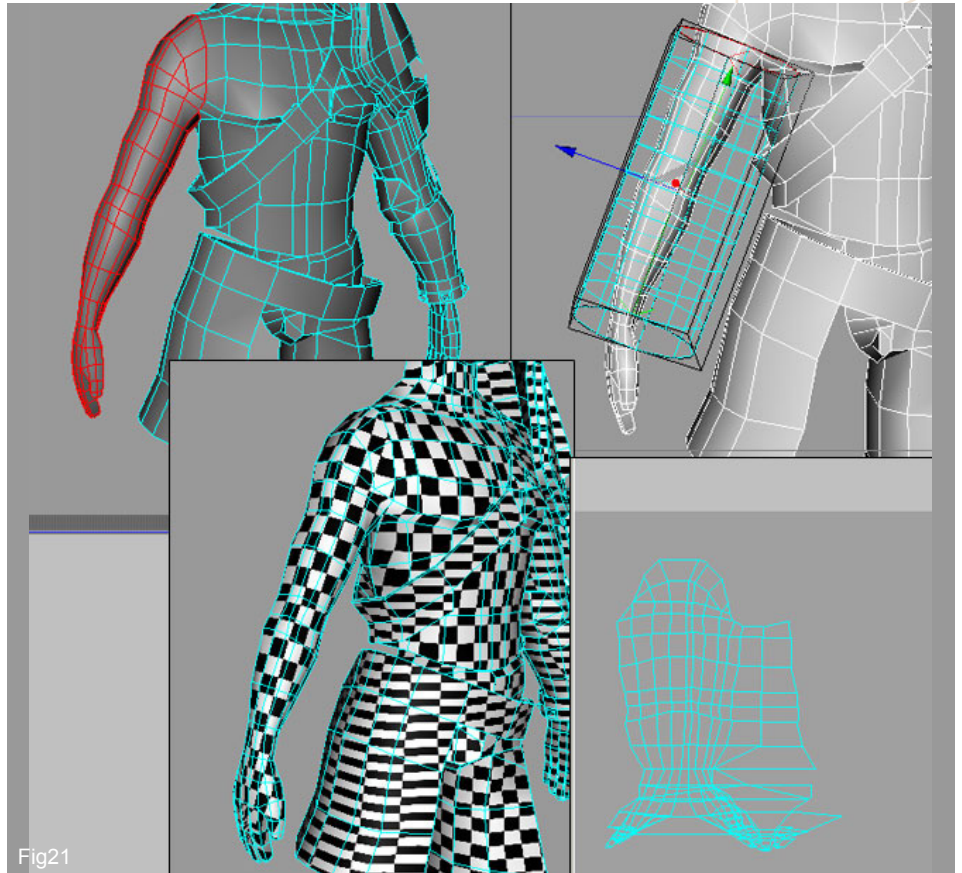

Fig21
21. For the arms use the same procedure. In Fig 21 you can see a cylindrical map being applied to the right arm. It runs from a line at the top of the shoulder down to the wrist. You can see that I have rotated the gizmo to follow the orientation of the arm using its local coordinates.